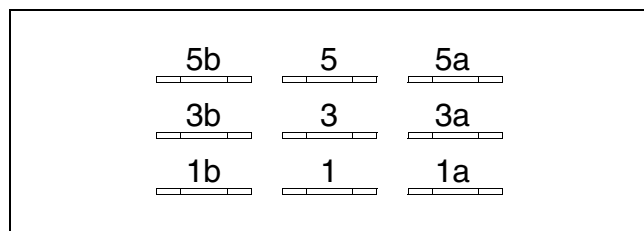
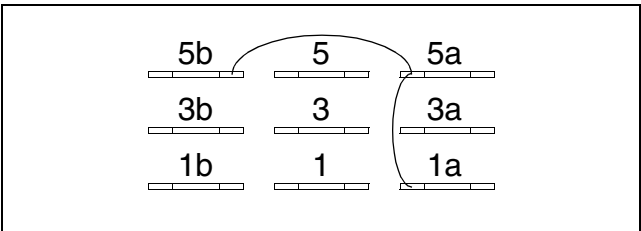

Figure 3
Figure 12
5. Install or remove jumpers to achieve the desired cycle time. *Figure 3* through *Figure 12* illustrate the possible combinations.
Removing all the jumpers extends the cycle time, making it as long as possible. Refer to *Figure 3*.
This configuration shortens the prewash step from 4 minutes to 2 minutes and shortens the final spin time from 4 minutes to 2 minutes. Refer to *Figure 12*.